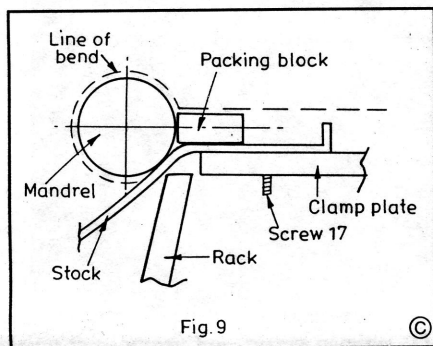

Fig. 9
The folded stock is inserted as shown in Fig. 9. Adjust screw (17) so as to set the stock in relation to the mandrel axis as shown in Fig. 9. Now, the clamp plate doesn't grip the stock, and a packing block is needed to limit the amount we can bend round the mandrel. Fingers are needed to keep things in position at first, so this job calls for left-handed operation of the tommy-bar. The packing block is best made of metal, but wood will do at a pinch; a useful tip is to stick it onto the stock with a spot of Evostick or the like. I've used Blutak before now!
Using the tommy-bar with left hand, push the rack (smooth end) inward as far as possible and rotate casting (1) clockwise as far as possible. This will form the stock as shown by the chain-dot line in Fig. 9. Because the stock has to fold against the
4: This is the pipe clip shown in Fig. 9, showing the bend being made against the packing block.